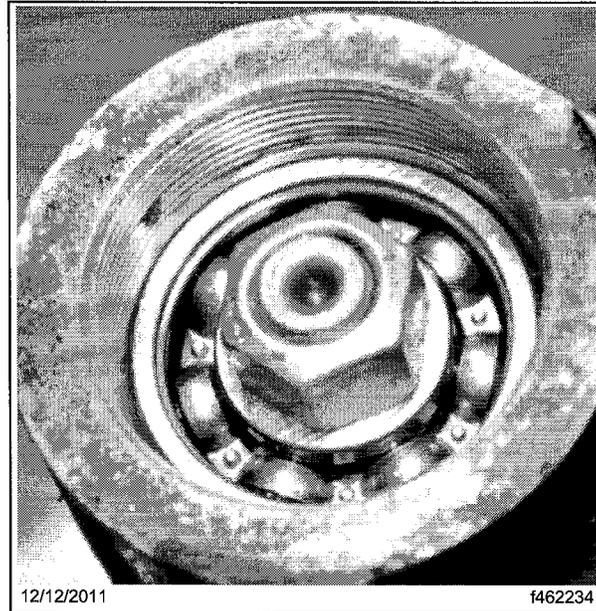

Fig. 3, Acceptable—Ball Bearing and Hexnut
8. Inspect the bearing access cover and ball bearing for corrosion. See Fig. 3.